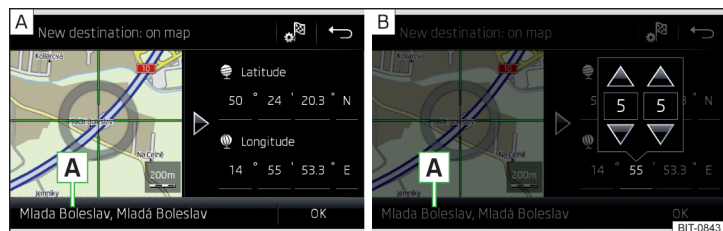

Fig. 213 Enter destination: via the map point / using the GPS coordinates
- Touch the screen to move the desired destination into the cross-hair » Fig. 213 - .
- Tap in the values of the GPS coordinates one at a time and adjust » Fig. 213 - .
If information about the point entered is available in the Infotainment system's navigation data, this will be displayed instead of the GPS coordinates (e.g. address  » Fig. 213).